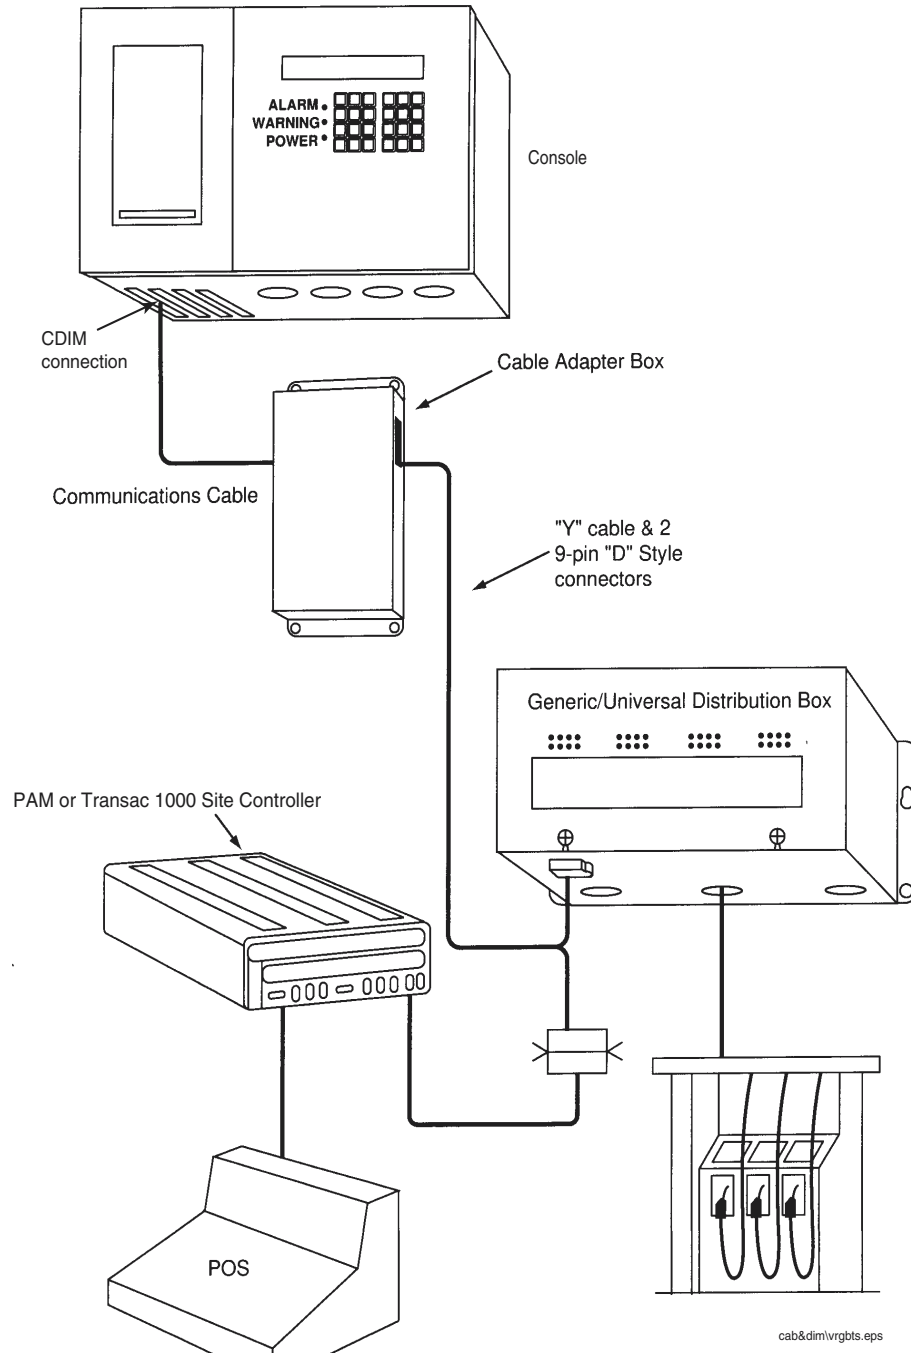

Figure 6. Universal Distribution Box Interface
**Important** *The below application can also be effected using a Generic Universal Distribution Box (see Figure 6). You must, however, use a “Y” cable to plug into the generic box.*
1. Locate Distribution Box as seen in Figure 6 on page 15.